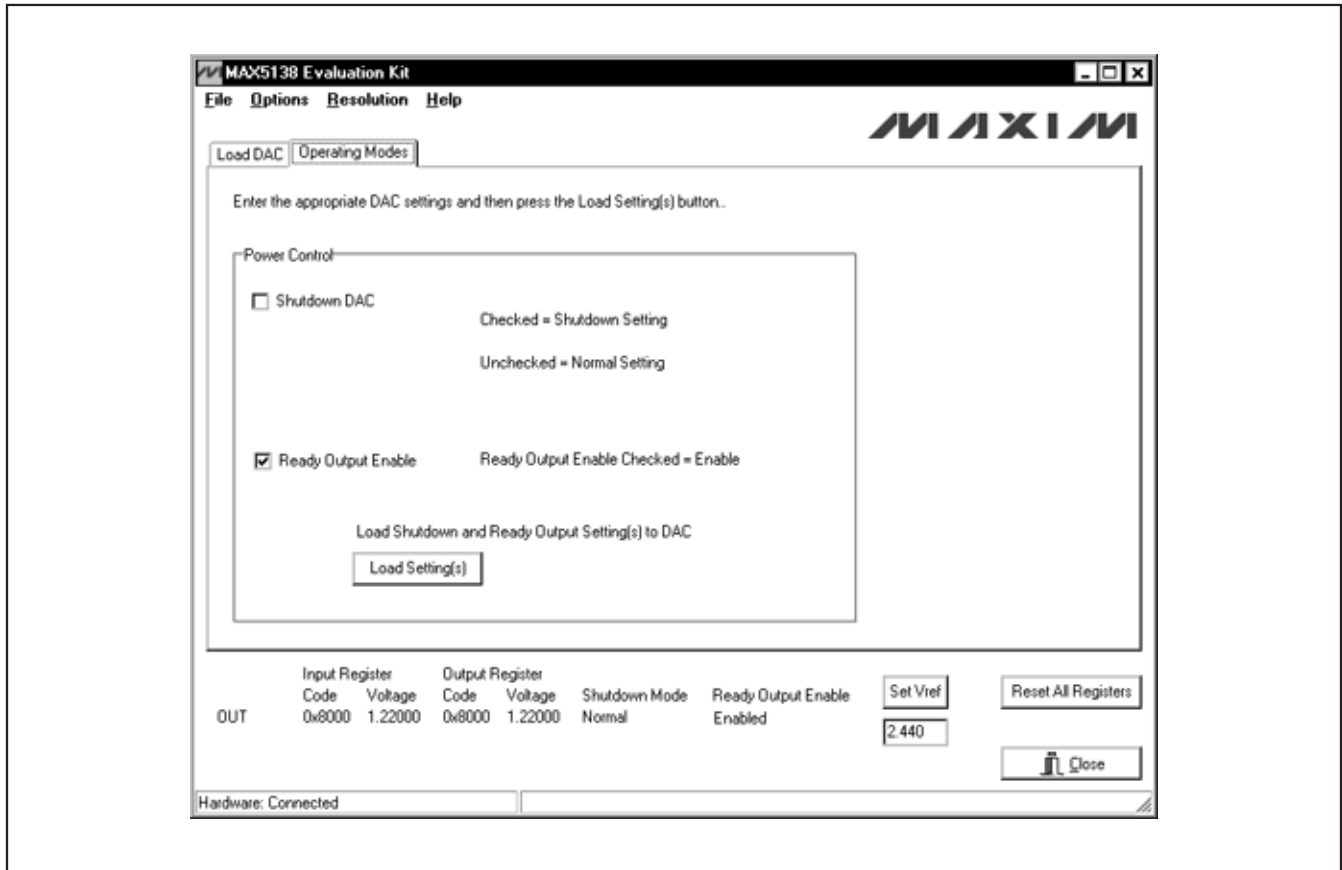

Figure 2. MAX5138 EV Kit Software Main Window (Operating Modes Tab)
**Modes** tab sheet (Figure 2) controls all the DAC modes of the MAX5138. The **Load Setting(s)** button must be pressed in order to write the corresponding mode settings to the DAC.